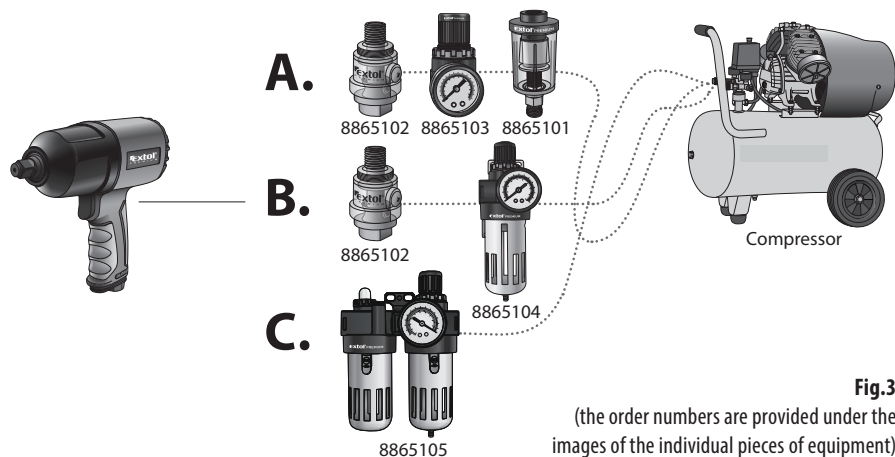

Fig.3
- The air impact wrench is powered by compressed air that must be free of moisture-condensate and must contain a pneumatic oil additive. For this purpose, there is peripheral equipment pictured and described in the diagram on fig. 3, which must be installed in front of the air flowing into the impact wrench in the provided order.
Order number of equipment (fig.3)	Description of equipment (treatment units)
POSSIBLE METHODS OF CONNECTION (SEE DIAGRAM IN FIG. 3)
- The order of the treatment equipment in the diagram in fig. 3 must be maintained during connection.